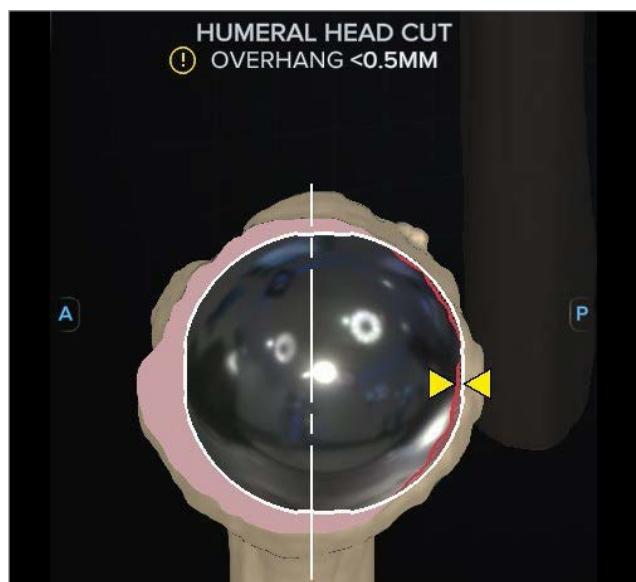

Figure 61. Anatomic head overhang warning
- If the user selects or positions a humeral head/trunnion construct when planning an anatomic so that the implant overhangs the humeral cortex, a warning will appear in the collapsible central panel of the “Humeral Viewer” page (Figure 61).